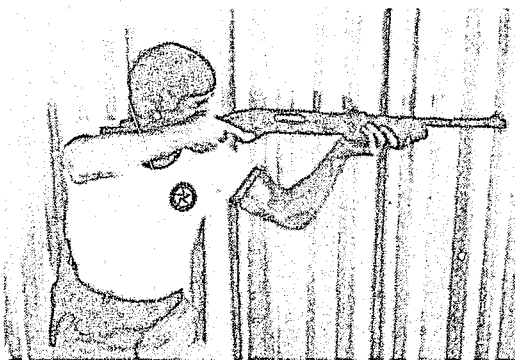

Figure 8-16
B. Combat Loading (if you have a resupply) (See Figures 8-16 through 8-20)